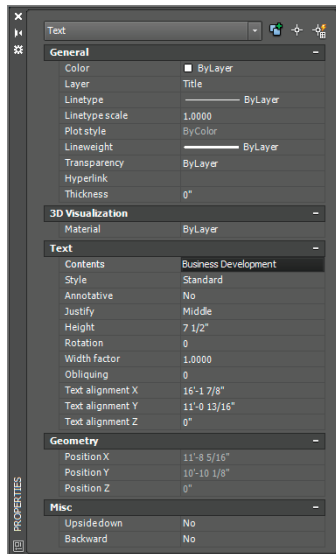

FIGURE 6.4 Editing a value in the Properties panel
12. Select the Business Development text object you selected in step 10. Many of its properties appear in the panel (see Figure 6.4). Property values that are editable are displayed on a black background when selected.